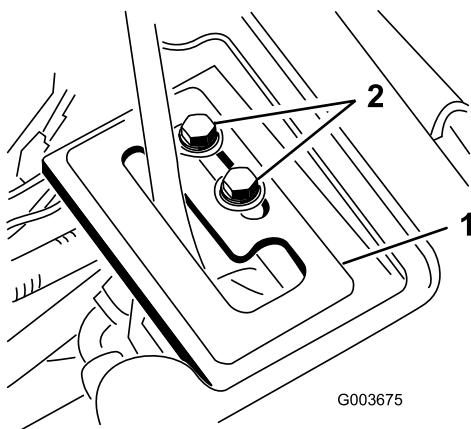

Figure 17
1. Insert the lever guide plate over the lift lever and loosely secure it to the frame with 2 flange head screws and washers (Figure 17).
6. With the engine running and lift lever in the **Float** position, slide the lever guide plate until the lift cylinder can be extended and retracted by hand (Figure 17).
7. Tighten both lift lever guide plate mounting screws to secure the adjustment (Figure 17).